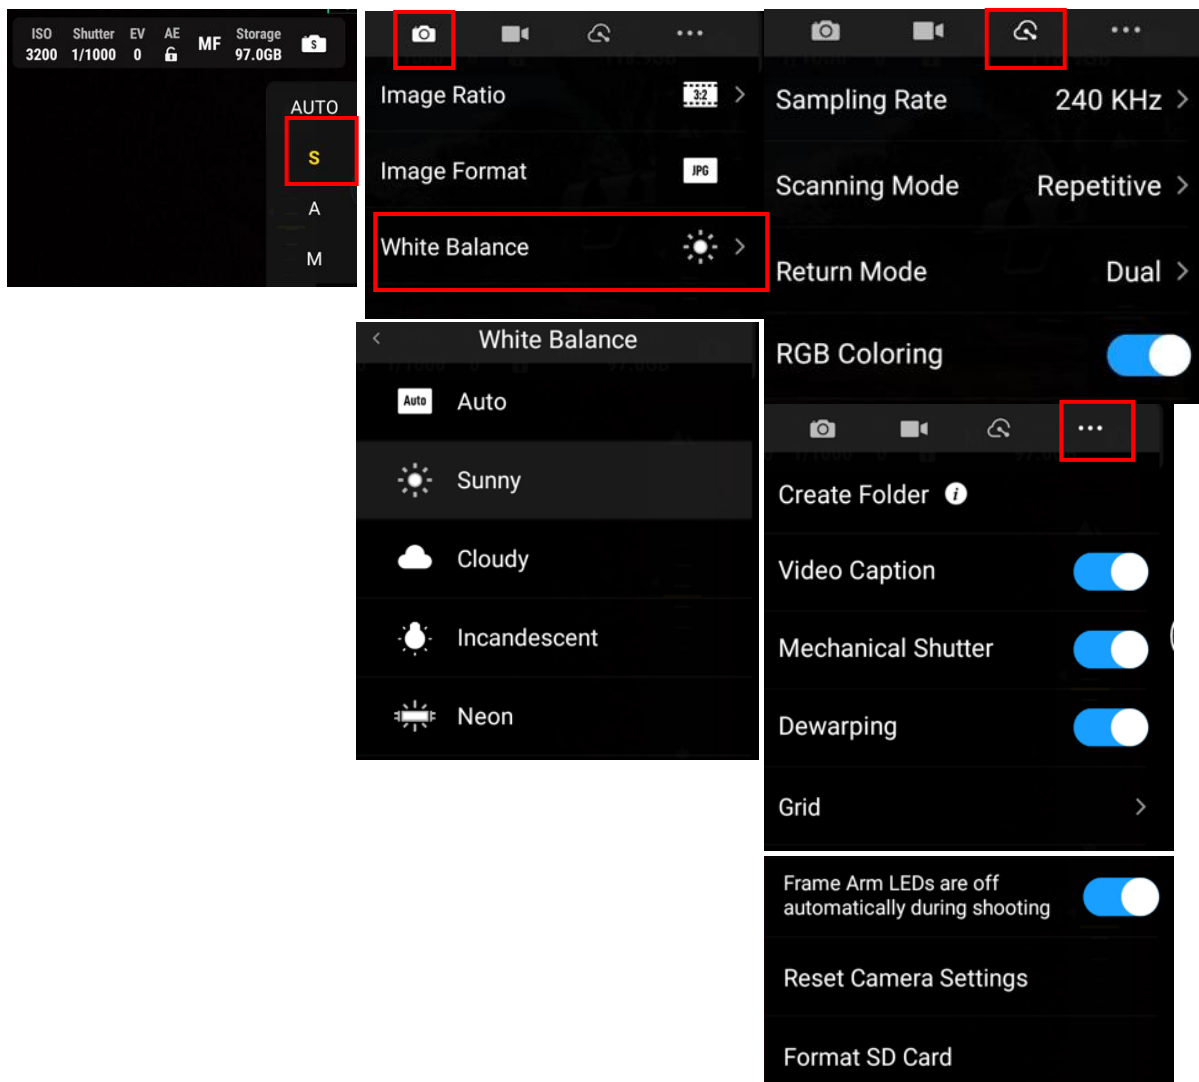

Figure 37: RGB camera settings for a lidar mapping mission. Check all settings. White Balance must be updated at each site.
1. In the L1 view, press 'CAMERA' to update the RGB camera settings (Figure 37).